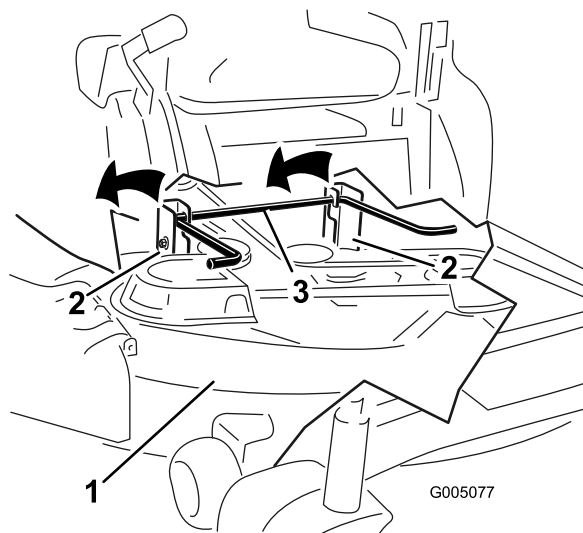

Figure 58
5. Lift the rear of the mower deck and guide the hanger brackets over the rear lift rod (Figure 58).
- Secure the rod and spring assembly by twisting it so that the short end of the rod can be placed behind the front bracket welded to the deck (Figure 58).